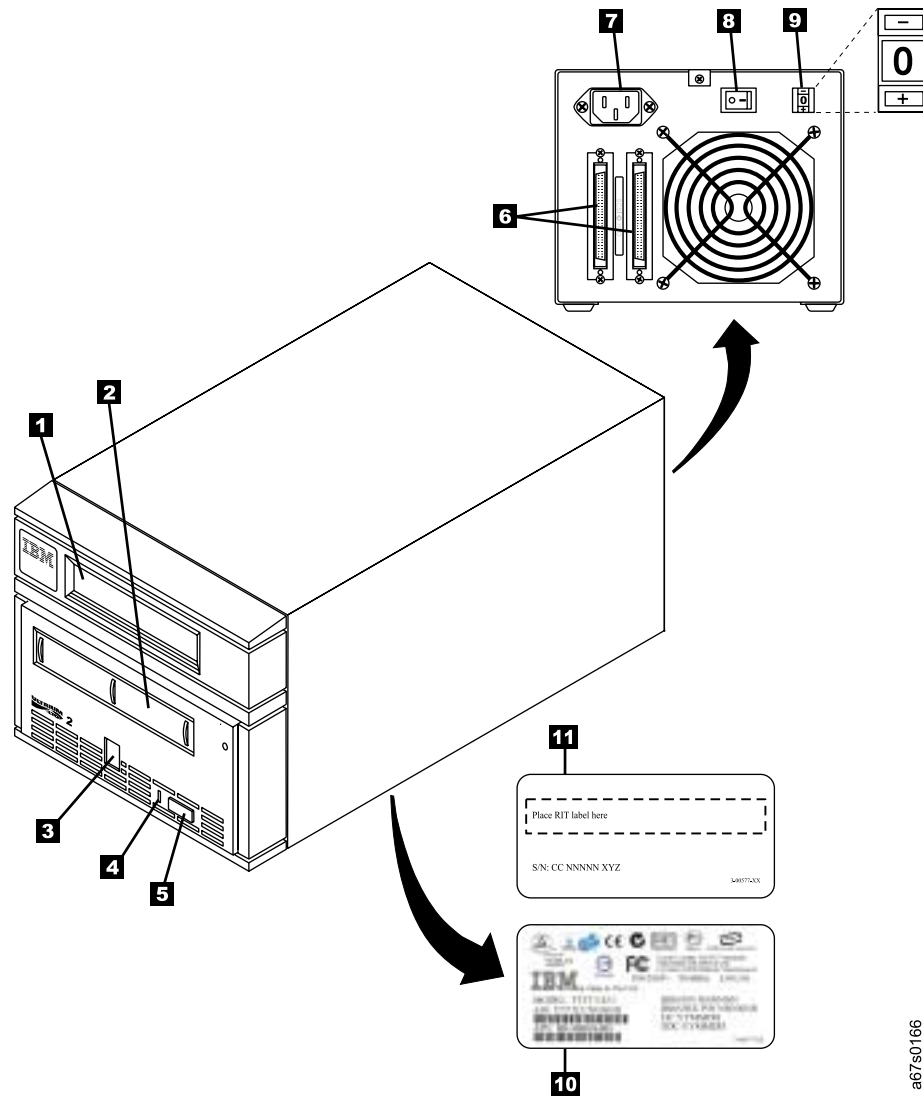

Figure 2. Components of the 3580 Ultrium 2 Tape Drive
- \_\_\_ 3. Tilt the 3580 Ultrium 2 Tape Drive on its side and locate the label that gives the machine type, model number and serial number of the unit (see **10** in Figure 2 on page 7). Make a note of these numbers and store them in an easily accessible place. Should you need to contact IBM Technical Support, you will be asked for these numbers.
- \_\_\_ 2. Locate the SCSI address switch at the rear of the 3580 Ultrium 2 Tape Drive (see **9** in Figure 2 on page 7).
- \_\_\_ 1. Ensure that the power switch on the 3580 Ultrium 2 Tape Drive is set to off by pressing 0 on the switch (see **8** in Figure 2 on page 7).